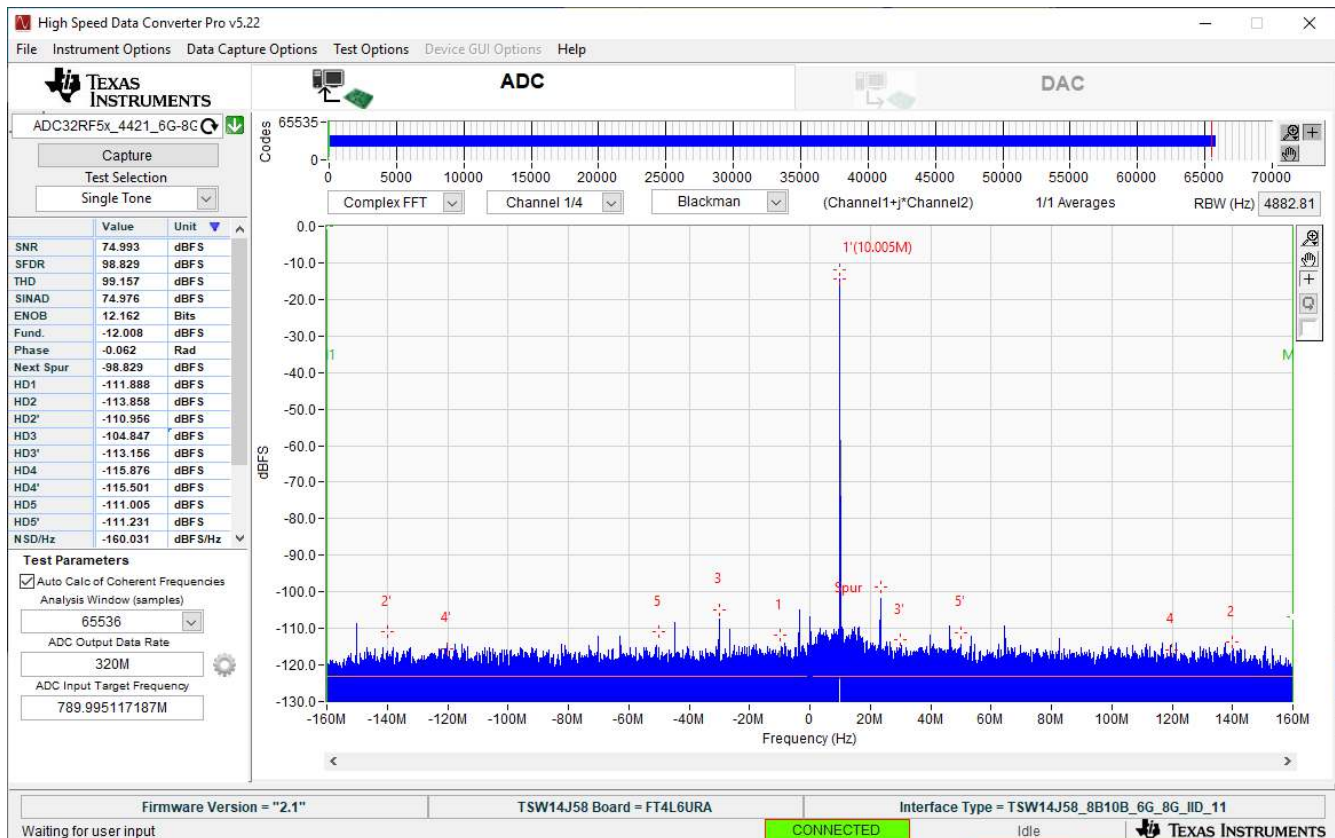

Figure 4-4. 789.995 MHz input, 8x complex decimation, 1x averaging, dither on
15. Press the **Capture** button. You should now see something similar to Figure 4-4.